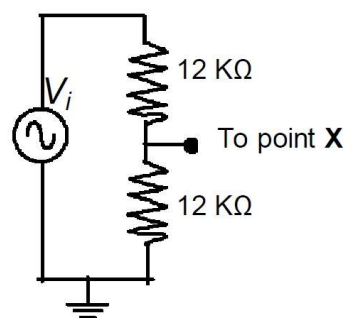

Fig.2
5. Now apply a fraction of the voltage V_i (keeping V_i at $200\text{mV}_{\text{p-p}}$) to the point 'X' through the potential divider circuit as shown in Fig.2 and note the values of V_o for